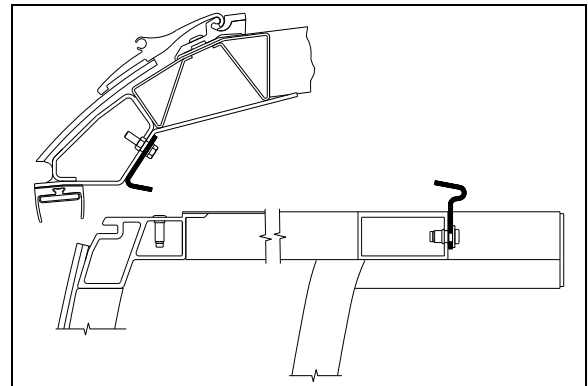

FIGURE 38: ROOM 2" INSIDE - UPPER SECTION VIEW
Do not retract slide-out room too far in. Retract just past the wiper seal. (Figure 38)
4. Using the manual override procedure, move the slide-out 2" inside the vehicle, just so the seal becomes accessible from the outside (Figure 38).
5. Once completed, use the manual override procedure to extend the slide-out to reinstall the exterior extrusion. Apply appropriate sealant on the exterior extrusion screws and between the extrusion, the roof and the edges to prevent water infiltration (Figure 38).